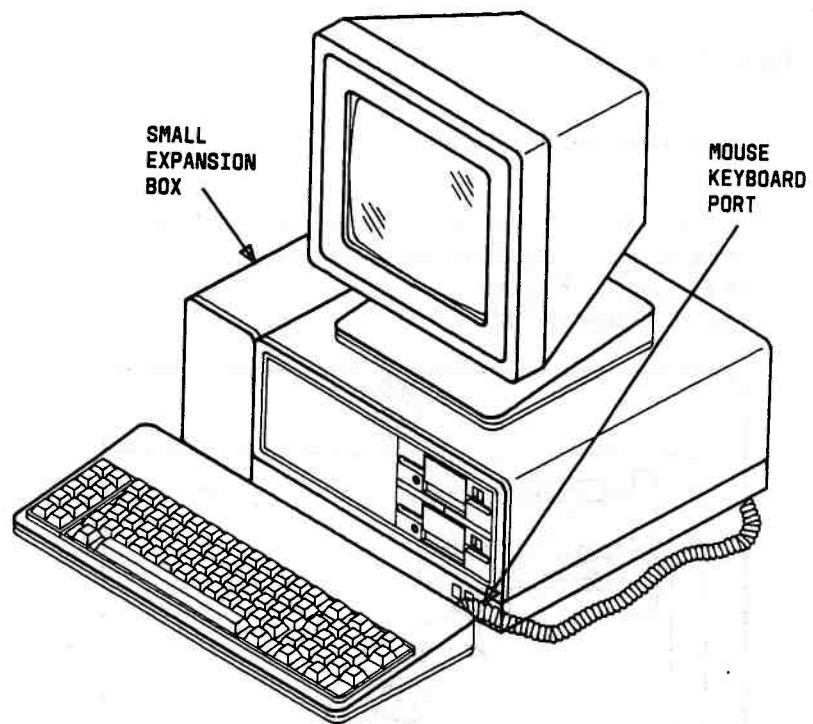

Figure 3-54. Locating the Mouse Port
2. Locate the Keyboard Mouse Connector (mouse port) on the back edge of the Keyboard (Figure 3-54).